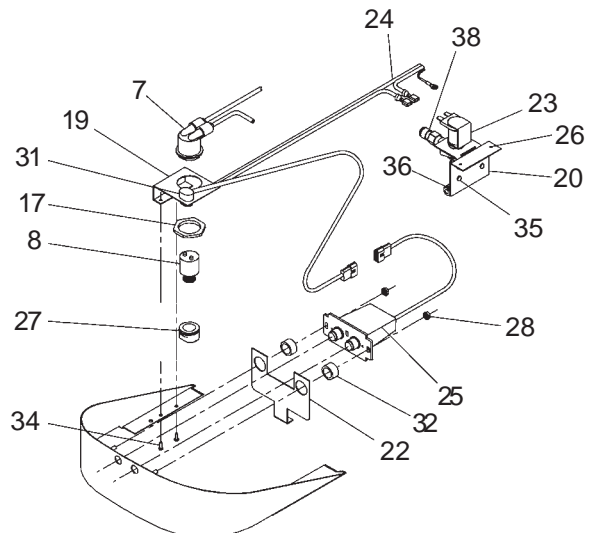

FIG. 5
8. Install fountains. Remove bottom cover plates on underside of fountains and save the screws. Mount the fountains to the upper panel and the wall frame with (4) 5/16" x 3/4" (19mm) long bolts and nuts (provided). Tighten securely.
11. Connect power cord of sensor to solenoid valve by running it through the back panel and connecting it as shown in Fig. 5. Connectors may be connected to either terminal on solenoid valve. Attach ground wire to solenoid valve bracket with green ground screw.